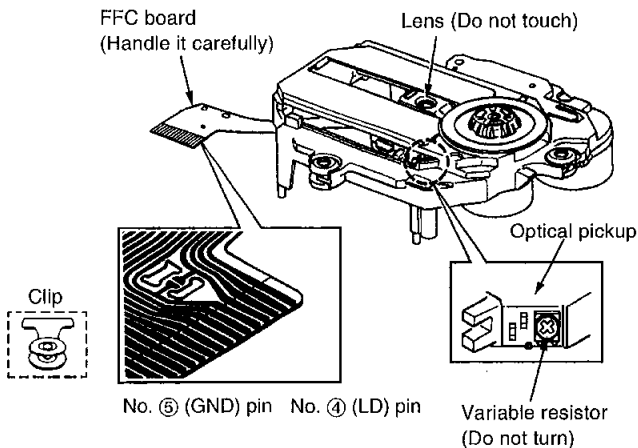

Fig.2-1.
2. To protect the laser diode against electrostatic breakdown, short the flexible board (FFC board) with a clip or similar object. Refer to Fig.2-1.
4. Do not turn the variable resistor (laser power adjustment). It has already been adjusted. Refer to Fig.2-1.